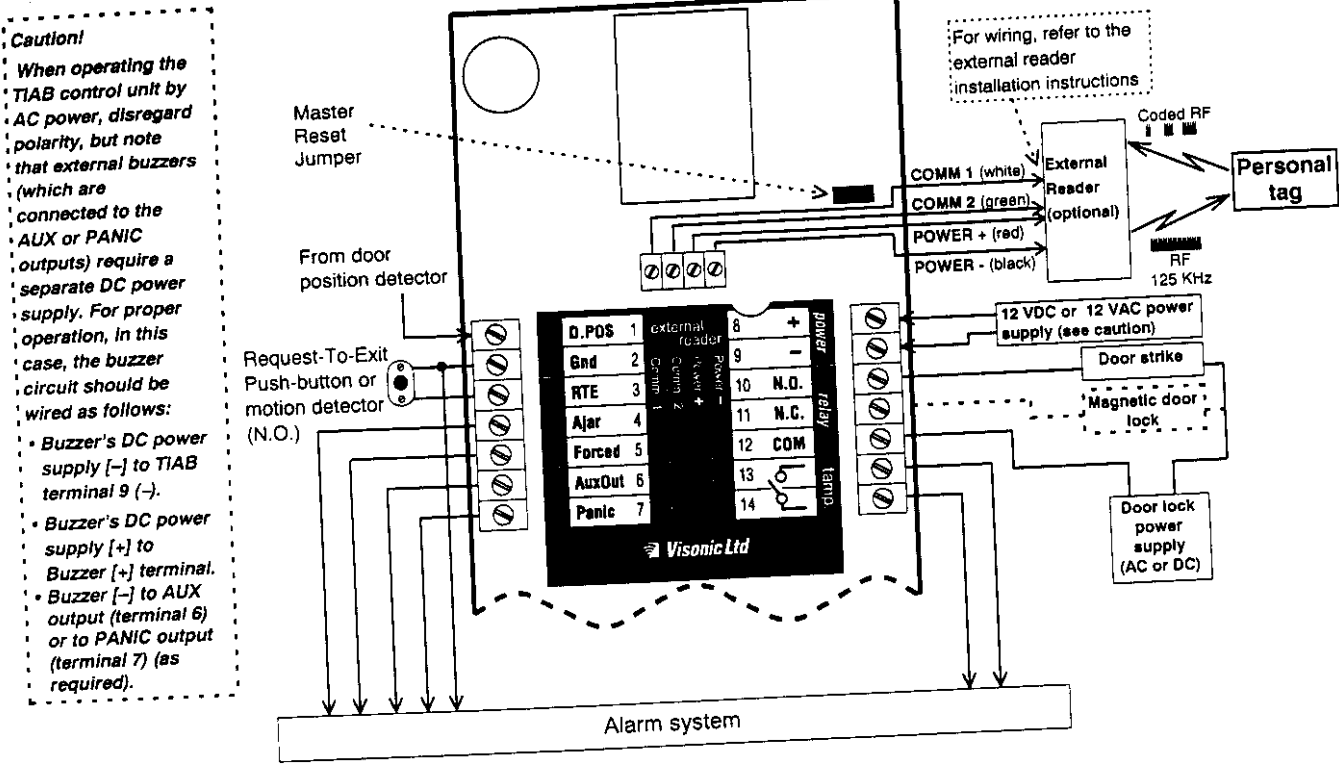

Figure 6 - Wiring diagram for Integration with an alarm system
5.2 Wiring Procedure (Fig. 6)
- Remove the Master Reset Jumper (fig. 6). The TIAB buzzer will start beeping.